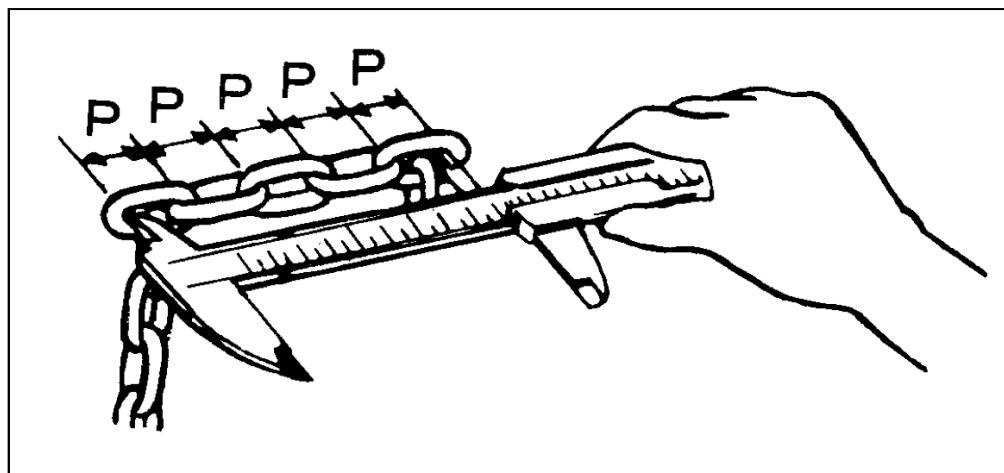

Fig 5 Checking chain dimensions
**Checks on load chain (see Fig. 5 and Table 2)**